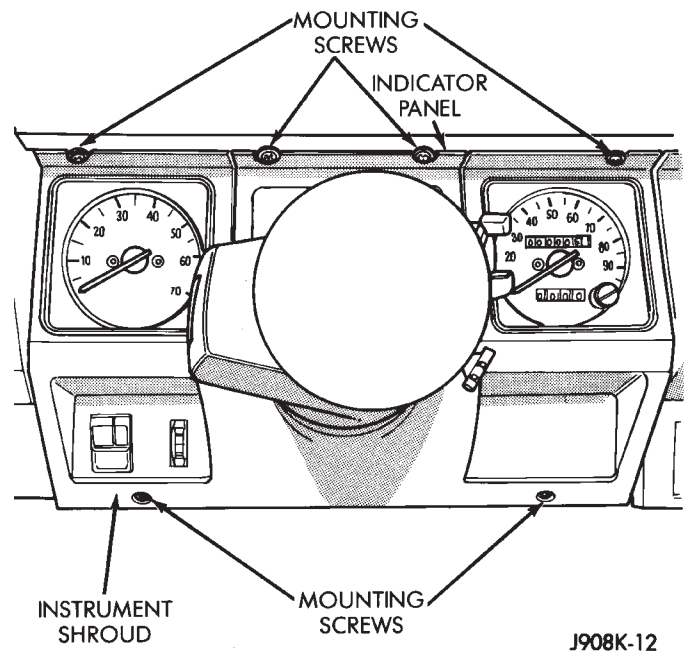

Fig. 13 Instrument Panel Shroud—YJ Vehicles
(3) YJ vehicles:
- remove the I/P shroud retaining screws (Fig. 13).